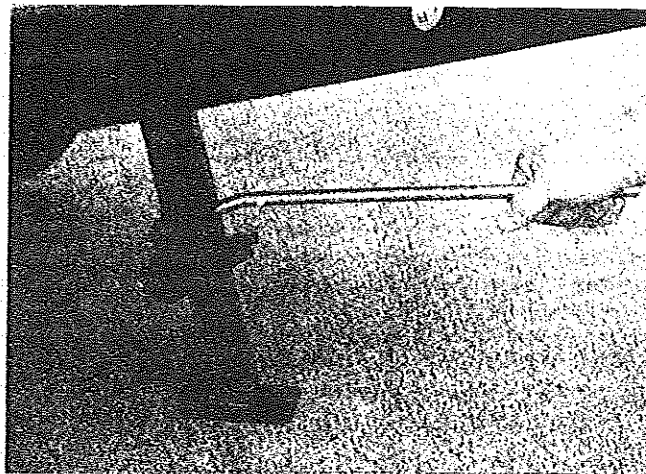

FIGURE 7
14. Remove the stabilizer jack handle from the recommended storage location. Making sure the handle is inserted through the rear hole, apply downward pressure to extend the inner legs of the stabilizer jacks to stabilize the trailer. See Figure 7. Remove jack handle and stow.